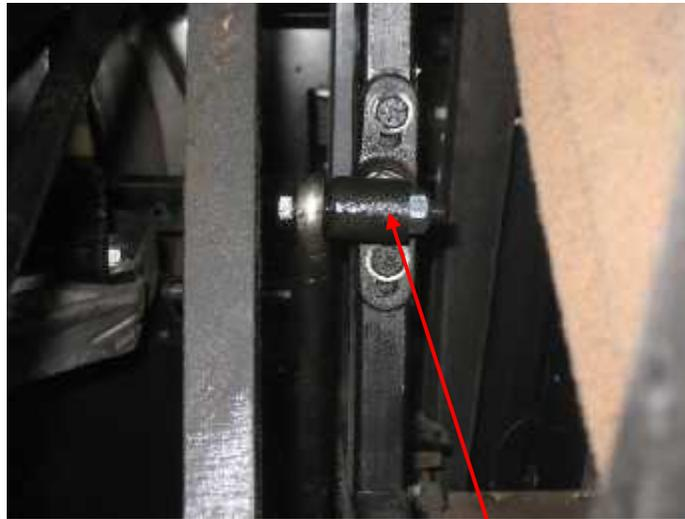

Figure 4
2. In Figure 4, the position (inward or outward) of Threaded Link determines the sweep's height where?